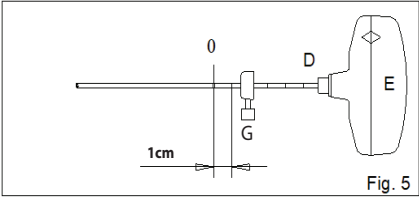

Fig. 5
FIG. 5 Adjust the depth gauge (G) on the Biopsy Needle (D) to the appropriate centimeter marker and tighten to provide a visual guide. Note: The selected centimeter marker (see Fig. 5) will represent the Biopsy Needle protrusion beyond Cutting Cannula (A).
Note 1: Repeat process from Fig.5 if desired and anatomically safe.